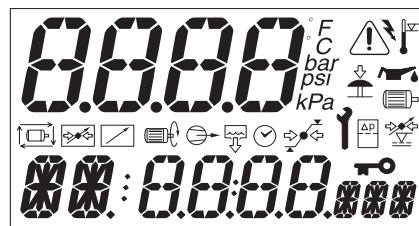
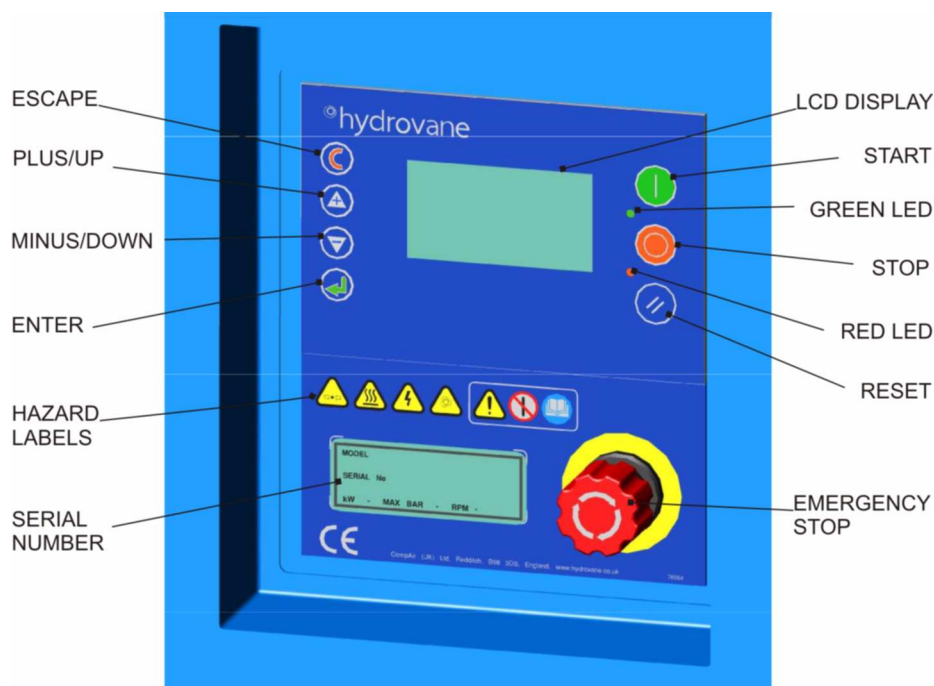

Fig. 7.1 - Controller Display
Fig. 7.2 - Controller
When electricity is first switched on the electronic controller (Fig 7.2) displays all symbols and illuminates both green and red LED indicators for three seconds (Fig. 7.1)
7.3 LED Indicators (Fig 7.2)